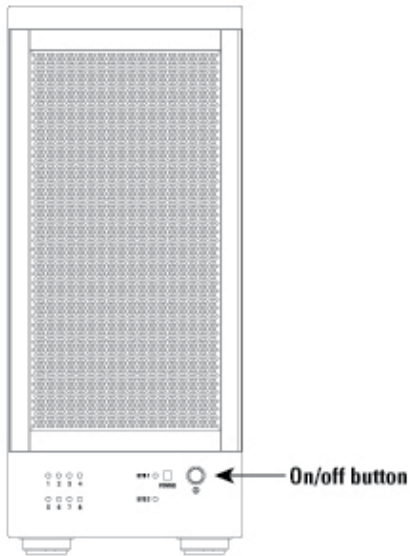

Fig. 12
5. Switch on the device to complete the RAID mode setting (fig. 12).